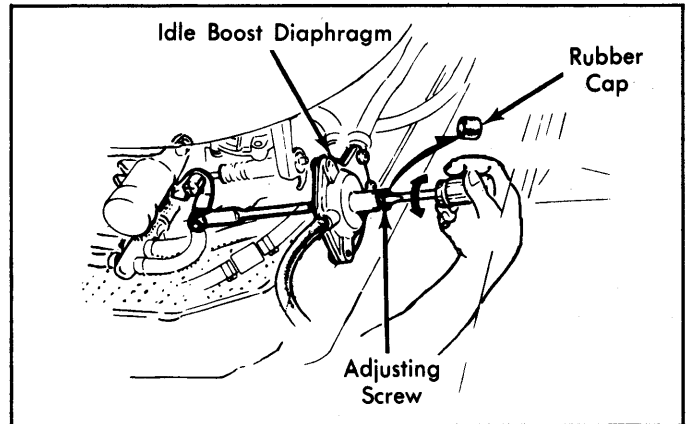

Fig. 6: Accord & Prelude Idle Boost Diaphragm Adjustment
4) On 1979 Accord and Prelude models equipped with air conditioning, check idle speed with A/C on. Speed should remain within specifications. If not, remove rubber cap on idle boost diaphragm and adjust speed by turning adjusting screw. See Fig. 6.